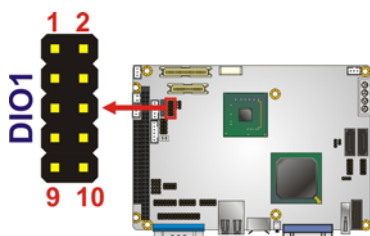

Figure 3-9: Digital I/O Connector Locations
- CN Location:** See Figure 3-9